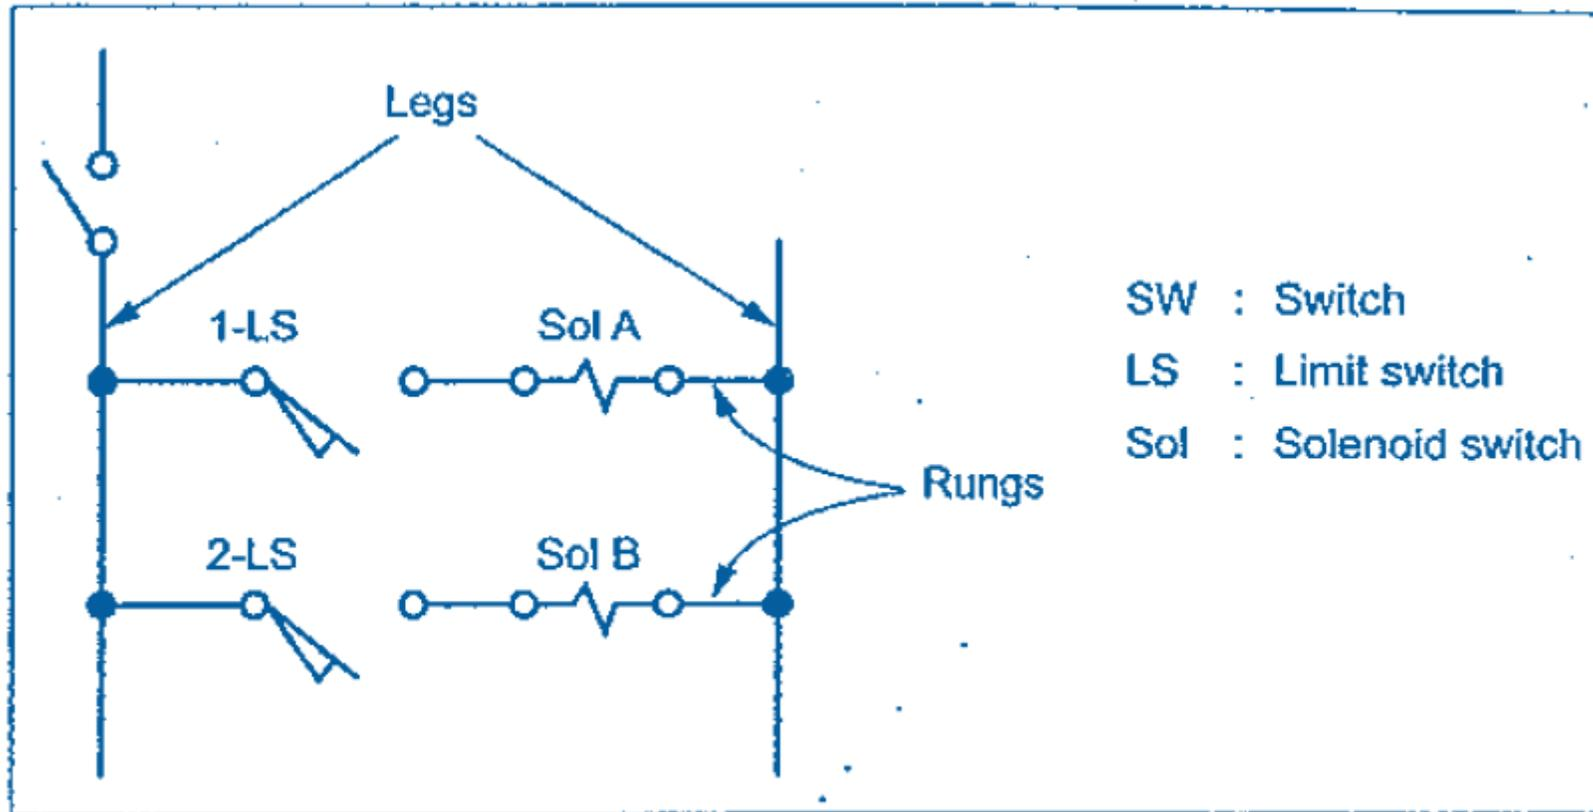

Fig. 9.9. Typical ladder diagram
Consider a typical ladder diagram as shown in Fig.9.9 for some application.
- ✓ *Legs and Rungs* : In Fig.9.9, the two vertical electrical power supply lines are called 'legs', and the horizontal lines containing electrical components are called 'rungs'.